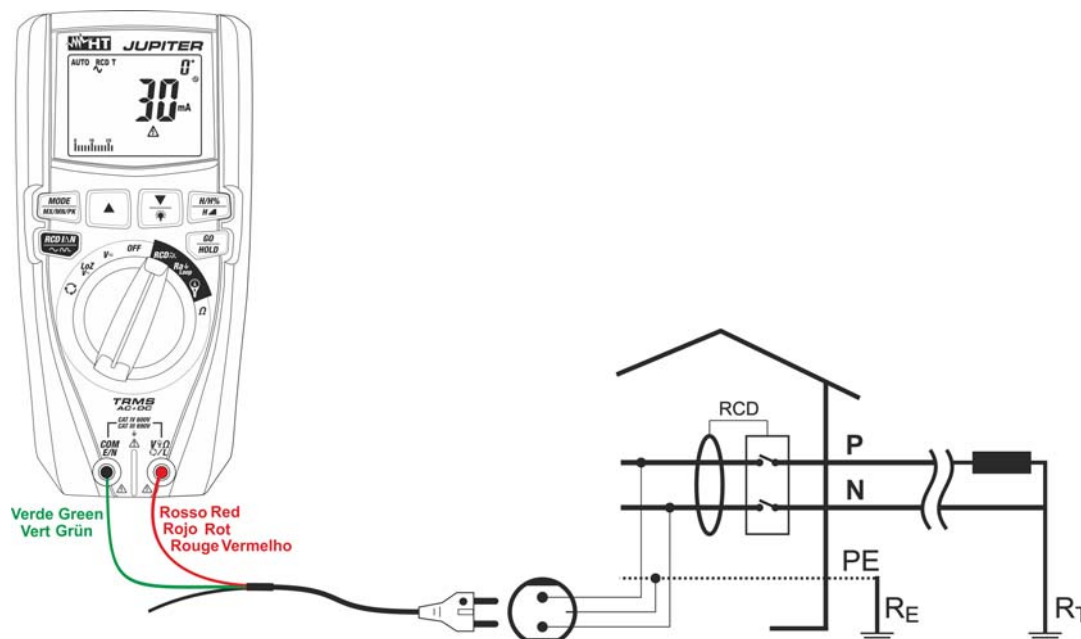

Fig. 29: Use of the instrument for RCD test on single-phase system with cable provided with Schuko plug
6. In case the cable with Shuko plug is used, insert the red conductor into input terminal **V** and the green conductor into input terminal **COM/E/N** and connect the instrument to the system to be tested (see Fig. 29). The presence of phase-to-earth voltage is shown in the bargraph